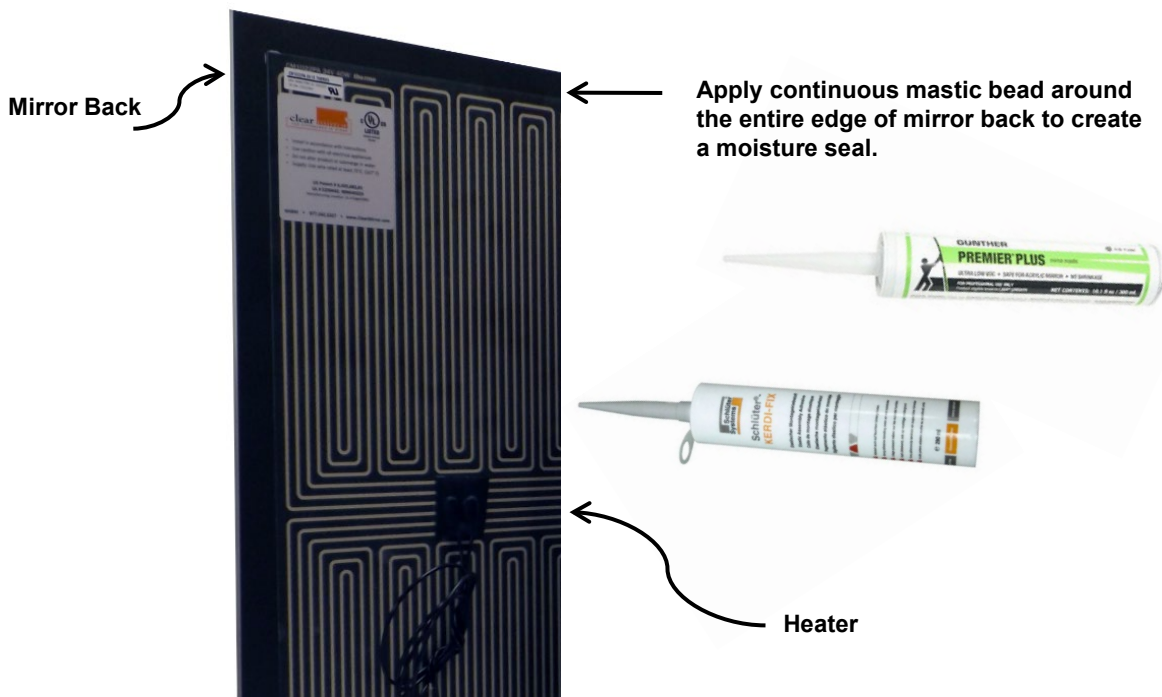

Figure 3. Applying Mirror Mastic.
5. Apply a **continuous bead around the entire** perimeter of the mirror back (See Figure 3).